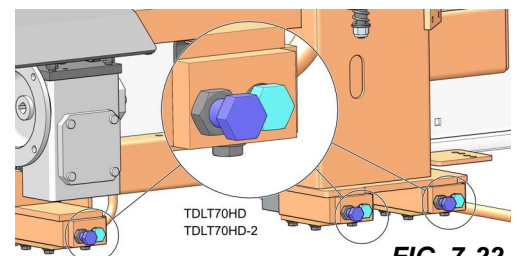

FIG. 7-22
21. To move the blade **back on the wheel**, loosen the jam nut and turn the horizontal adjustment screw clockwise one quarter turn. See FIG. 7-22.
4. Back out the stop bolt and jam nut. See FIG. 7-22.
5. To adjust the saw head tilt, use the bolts located at the bottom of the saw head mast/track rollers. See FIG. 7-22.